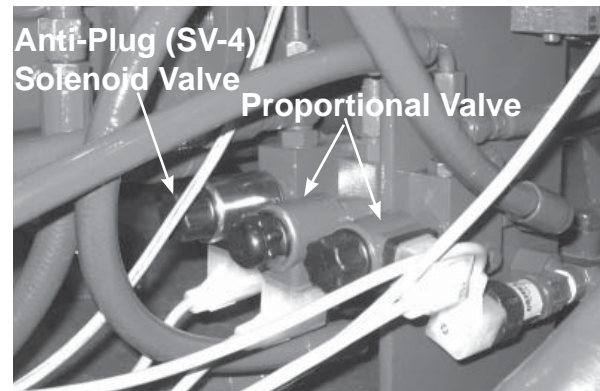

Figure 22 - Restriction System Solenoid Valve
- Automatic abnormal high-pressure operation** The automatic abnormal high-pressure operation is controlled by the restriction system anti-plug solenoid valve SV-4 (see Figure 22), which is energized by the Anti-Plug pressure switch (see page 7).
The restriction rail is located at the bottom of the discharge chute. The automatic restriction rail control system controls two hydraulic cylinders that operate the restriction rail. The restriction system proportional valve (Figure 22) controls the force applied by the restriction rail to the product (dewatering pressure), and is adjusted to obtain the desired water content of the discharged product.